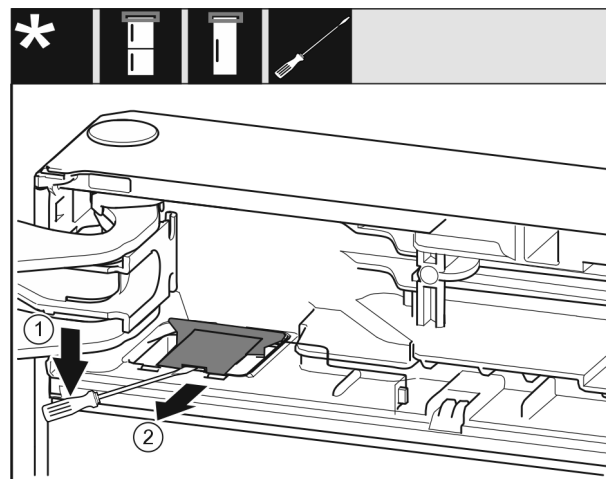

Fig. 10
- Use a screwdriver to snap out the cover Fig. 10 (1).
- Pull out the cover Fig. 10 (2).